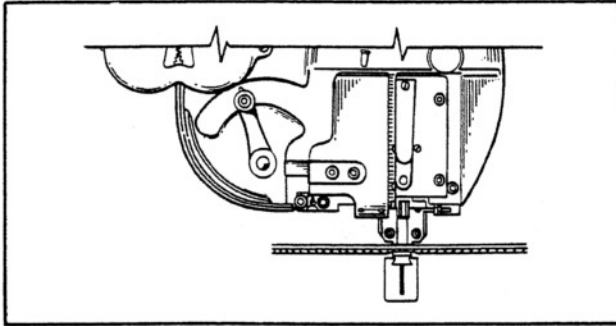

Figure 6
3. Place the material to be stitched over the clincher. If the work material is metal and is not compressible, adjust the clincher upward until the material is held firmly between the clincher and the formers. See figure 5. If the work material is not metal and is compressible, adjust clincher upward until the formers and clincher make a slight depression in the work material. See figure 6.